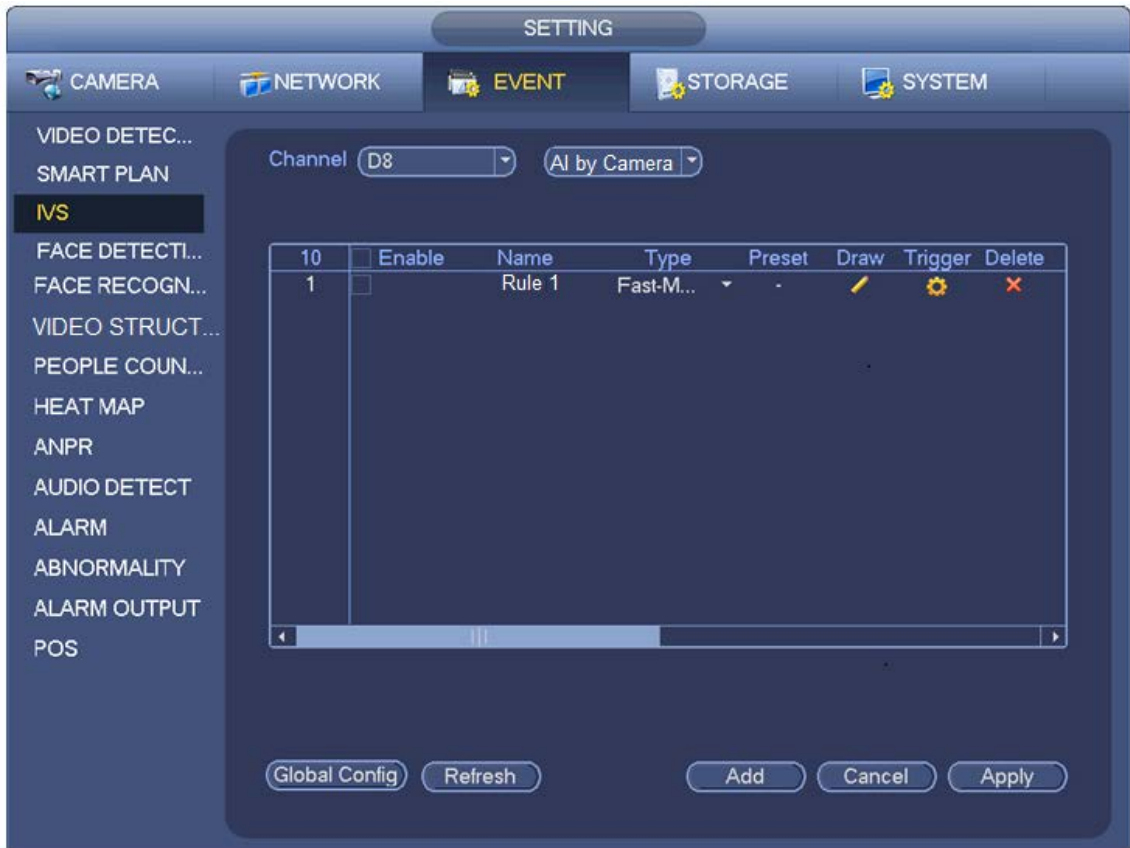

Figure 4-136
- When you select AI by device, the system displays as Figure 4-136.